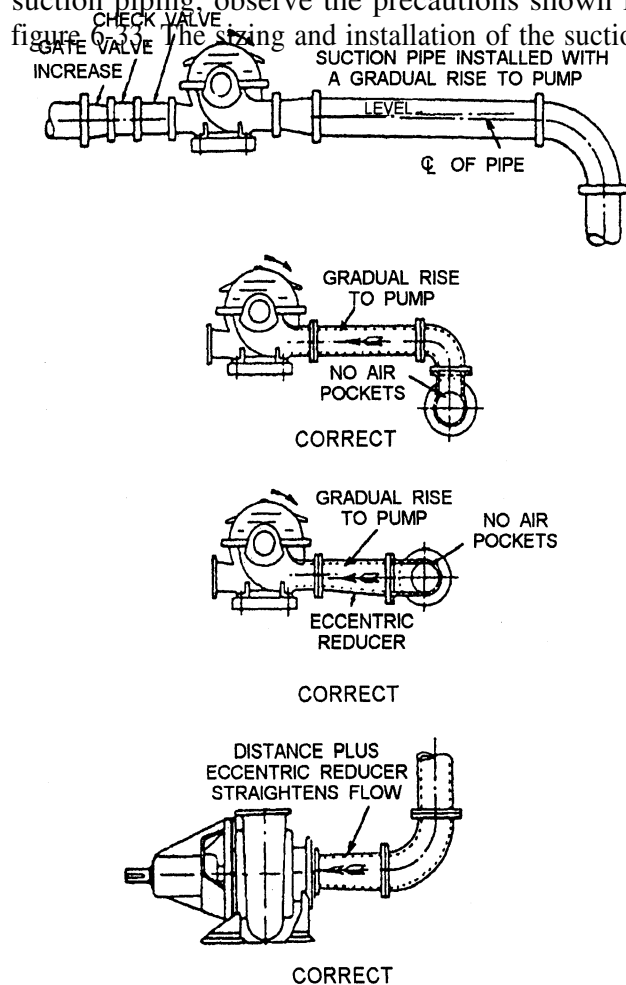

Figure 6-33.—Suction pipe installations.
**SUCTION PIPING.**—When installing the suction piping, observe the precautions shown in figure 6-33. The string and installation of the suction